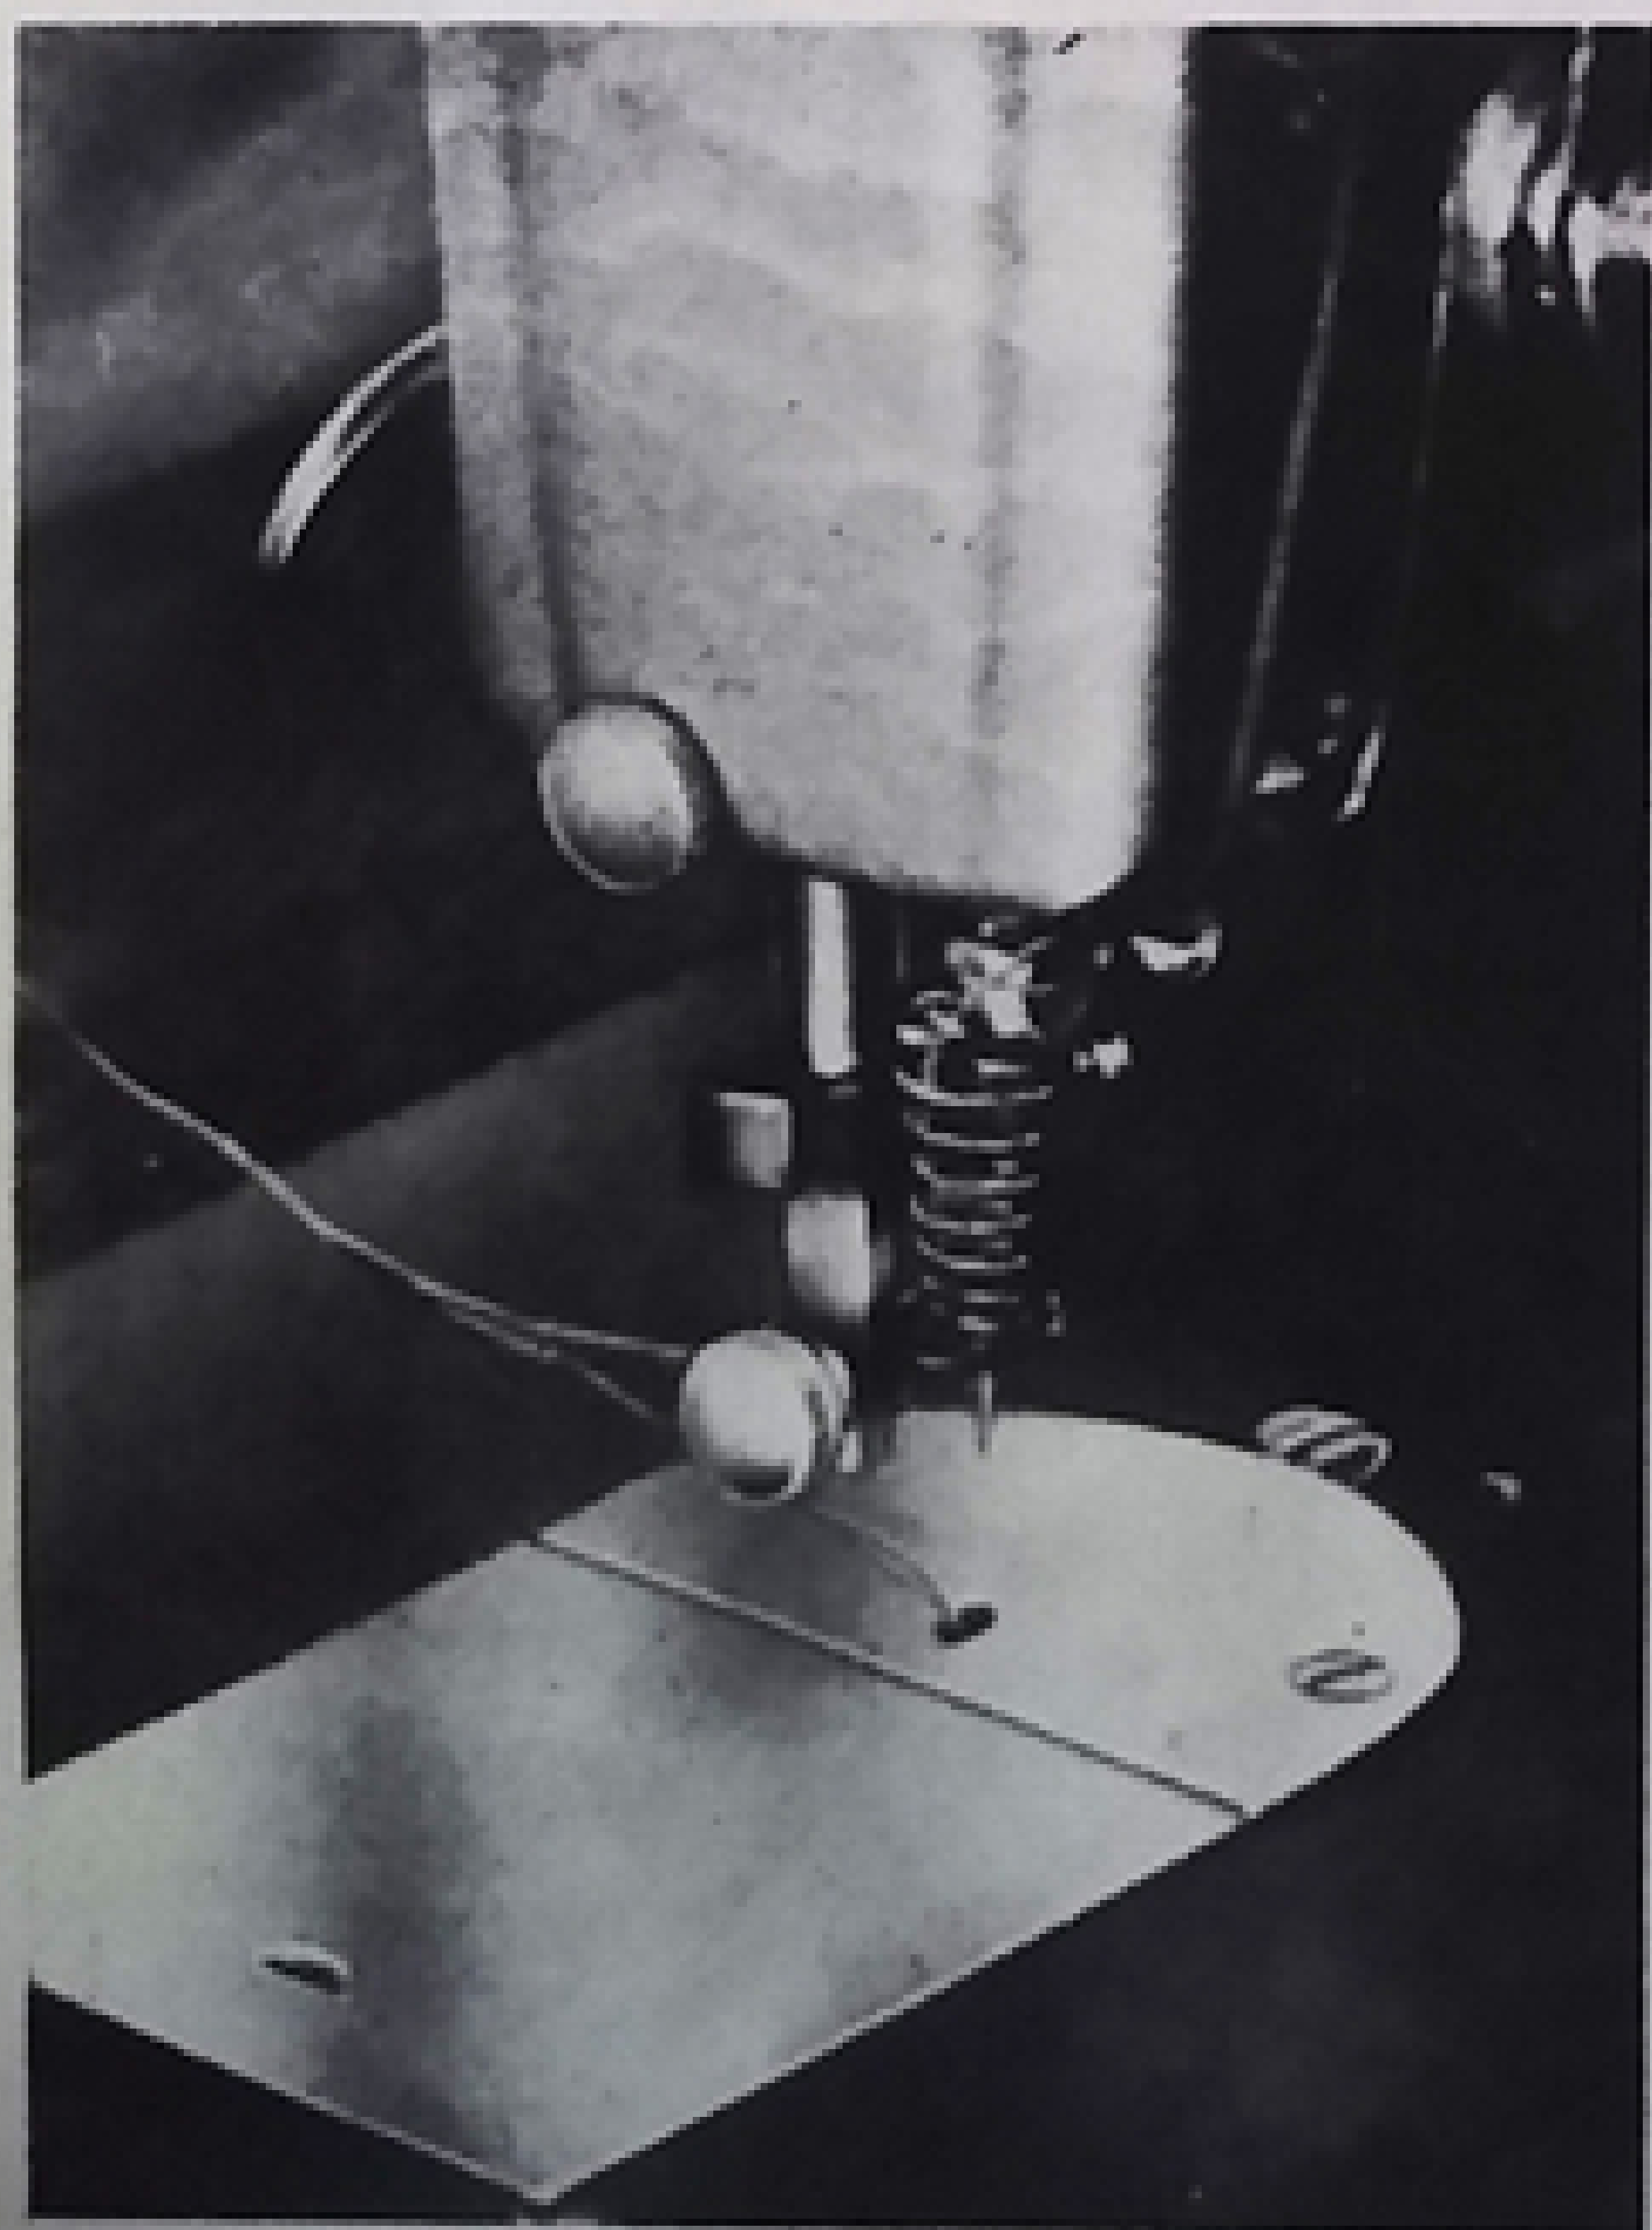

Fig. 27
1. Remove the zig-zag foot. The spring darning foot **is not** attached to presser bar. It is attached to the needle bar as shown in Fig. 27.